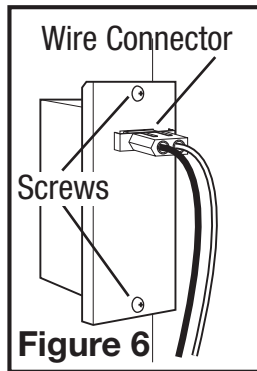
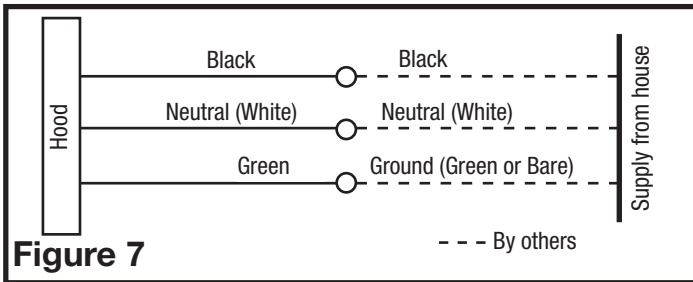

Figure 6
Figure 7
1. Remove the two wire compartment cover screws to gain access into the wire compartment (Figure 6). Connect the white wire from the range hood to the white wire from the supply, and the black wire from the range hood to the black wire of the supply. Connect the ground wire from the home (green or bare) to the ground wire (green) from the hood. Use approved methods for all connections (Figure 7).
2. Replace the wire compartment cover and tighten screws. Make sure all wiring is securely contained within the wire compartment. If the quick connect wire connector was removed from the receptacle, replace. The connector will only fit one way into the receptacle (Figure 6).